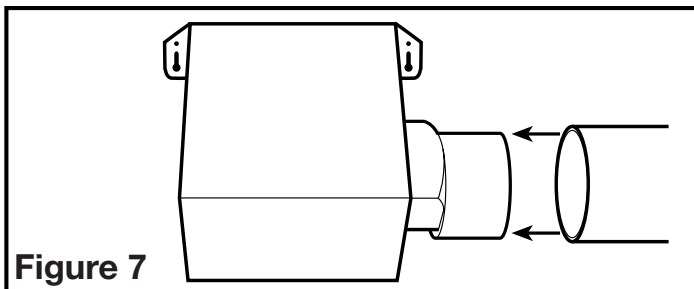

Figure 7
1. Connect the ducting to the fan's duct collar (**Figure 7**). Secure in place using tape or screw clamp. Always duct the fan to the outside through a wall or roof cap.